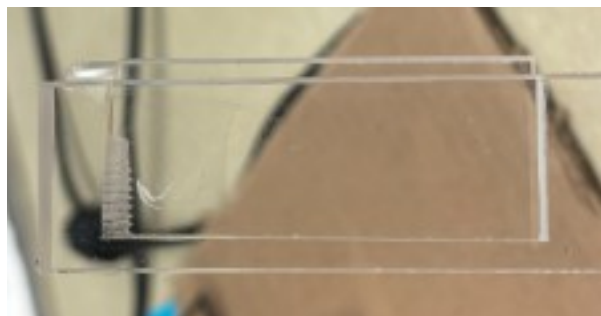

Figure 3.5
6. Allow to set for 24-48 hours while clamped. When finished, an invisible bond should hold the pieces firmly (*Figure 3.5*).